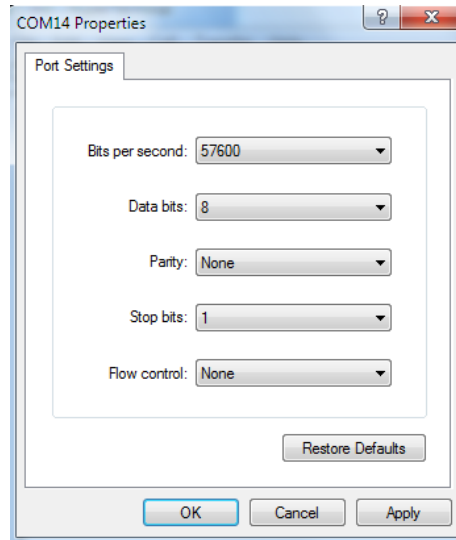

Figure 46 Design Flow Window After Programming
3. Connect the HyperTerminal, select the right COMM port, then select the following settings, as shown in Figure 46.